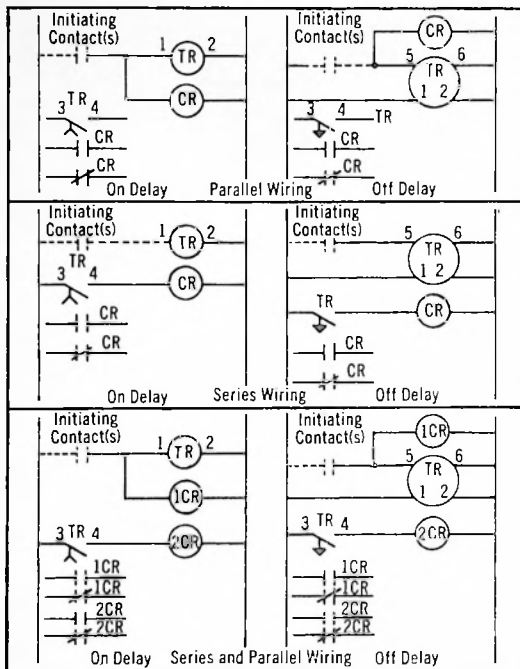

Figure 2 - Wiring Diagrams
2. In series with the relay coil thus providing many timed contacts. (See Figure 2)
3. In series and in parallel with the BF relay coils thus providing many timed and many instantaneous contacts. (See Figure 2)